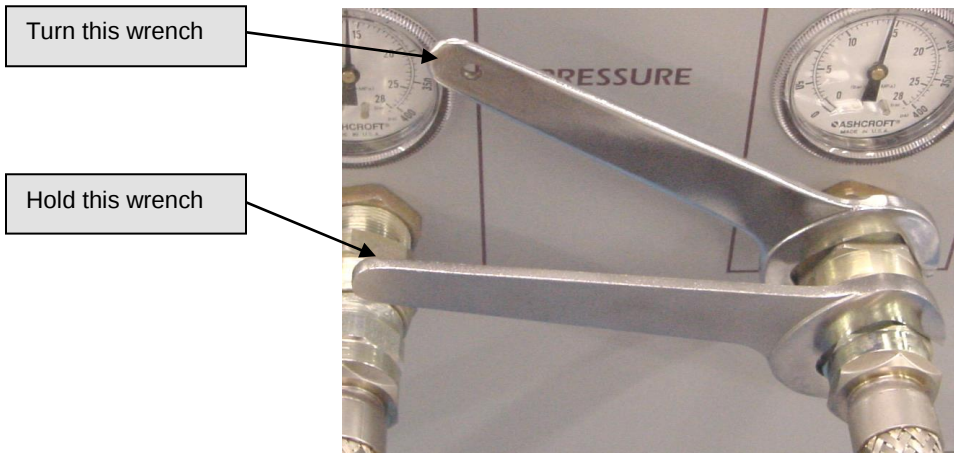

Figure 7-2: Disconnecting flex lines from a compressor package
- 7) Using the wrenches supplied in the tool kit, disconnect the high and low-pressure flex lines from the compressor package by turning the Aeroquips® counter-clockwise with one wrench while holding the other wrench to prevent the flex line from twisting. See Figure 7-2.